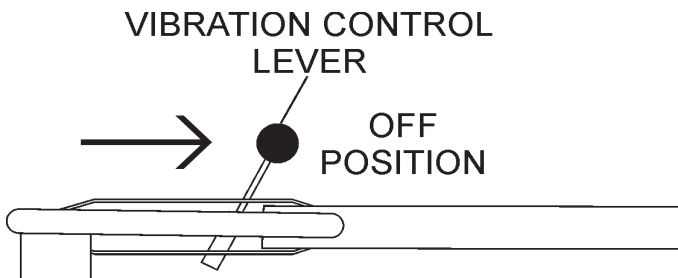

Figure 31. Vibratory Control Lever (OFF)
1. Place the vibration control lever (Figure 31) on the roller to the OFF position (vibration stops).